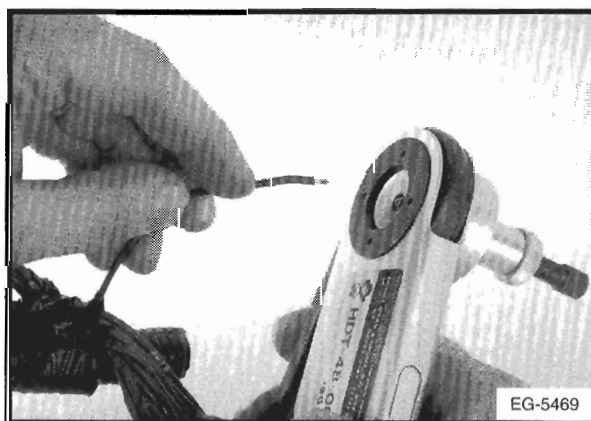

Figure 6-7. – Insert Wire Into Contact
3. Place the stripped end of the wire into the crimp barrel of the contact. Insert wire into contact. (**Figure 6-7.**) Fully depress the tool handles. Release and remove wire/contact assembly. (**Figure 6-8.**)